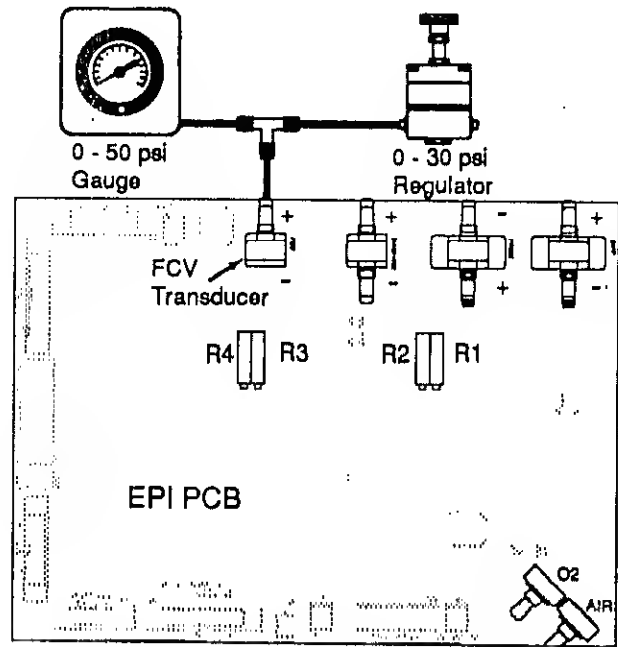

**Figure 5-5**
7. Connect the Machine Transducer as shown in Figure 5-5 and apply 120 ±.5 cmH2O pressure.